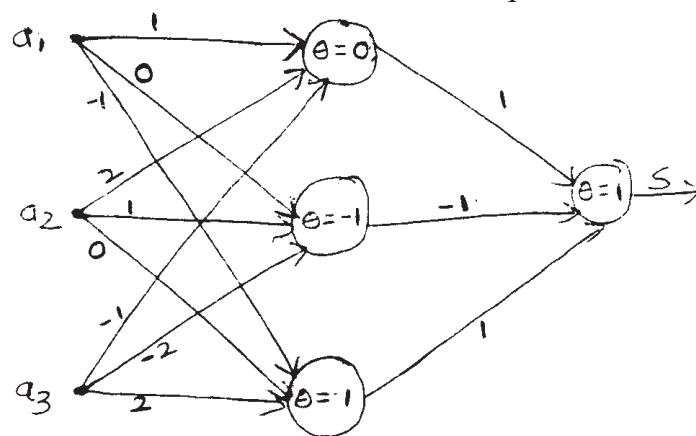

Fig 1 A Feedforward
b) Fig. 1 implements McCulloch Pitts models neurons. Calculate and tabulate the o/ps of the N/W for all combination of i/ps. [10]